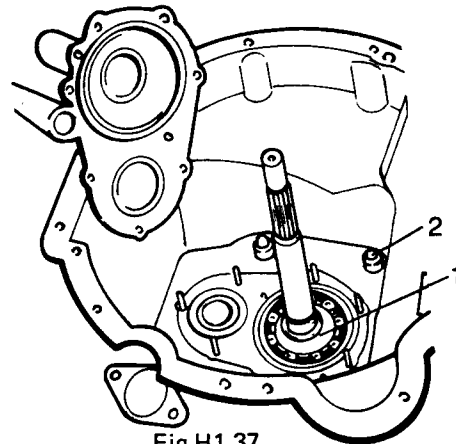

Fig H1.37
- (1) Refer to Fig H1.37. Fit the clutch housing, and tighten the nuts (2) up to a torque of 60 to 75 N.m.
- (2) Fit the washer and spring ring (1) which fixes the bearing to the primary shaft.
- (3) Install the adjusting washers.
- (4) Replace the clutch withdrawal mechanism (see Sub-sub-section H1.3, Chapter 5).
- (5) Refit the gearbox to the vehicle (see Sub-sub-section H1.3, Chapter 1) and refill with the correct grade of oil.